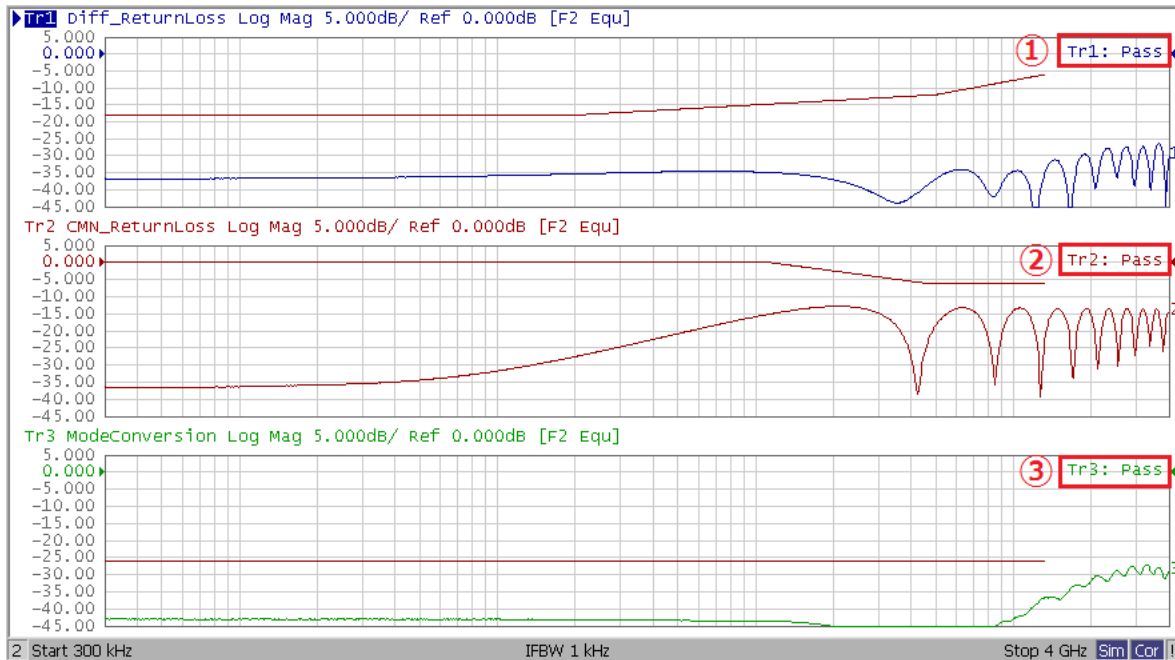

Figure 5-3 Differential Return Loss, Common-Mode Return Loss and Mode Conversion Limits (HS-RX) Example
8. Read the pass/fail sign on the trace (item 1 in Figure 5-3).
8. Read the pass/fail sign on the trace (item 2 in Figure 5-3).
8. Read the pass/fail sign on the trace (item 3 in Figure 5-3).